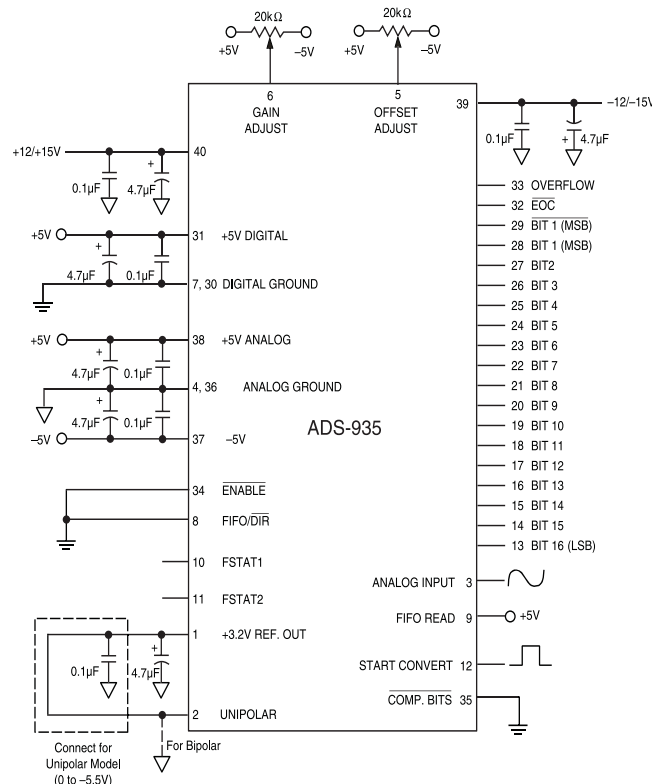

Figure 2. Bipolar Connection Diagram
- The ADS-935 achieves its specified accuracies without the need for external calibration. If required, the device's small initial offset and gain errors can be reduced to zero using the adjustment circuitry shown in Figure 2. When using this circuitry, or any similar offset and gain calibration hardware, make adjustments following warmup. To avoid interaction, always adjust offset before gain. Tie pins 5 and 6 to ANALOG GROUND (pin 4) if not using offset and gain adjust circuits.
Connect the converter per Figure 2. Any offset/gain calibration procedures should not be implemented until the device is fully warmed up. To avoid interaction, adjust offset before gain. The ranges of adjustment for the circuits in Figure 2 are guaranteed to compensate for the ADS-935's initial accuracy errors and may not be able to compensate for additional system errors.